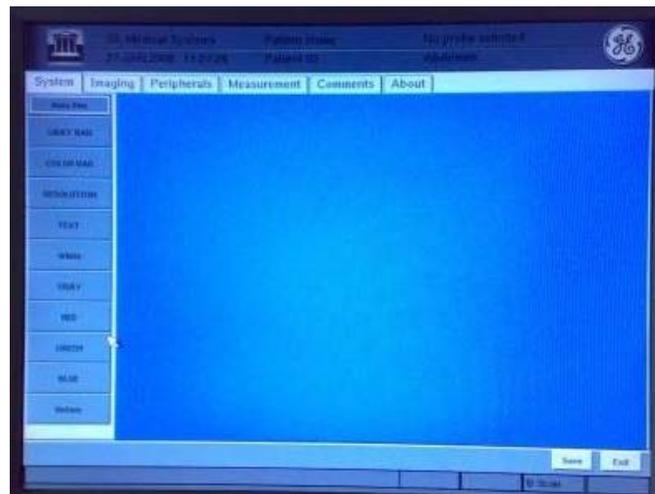

Figure 7-14 Patterns test screen
- 6.) **Copy To CD:** Put CD onto CD driver. Click the Copy to CD button (Refer Figure 7-14) from Service Diagnostics main Screen. Log files will be copied to CD.